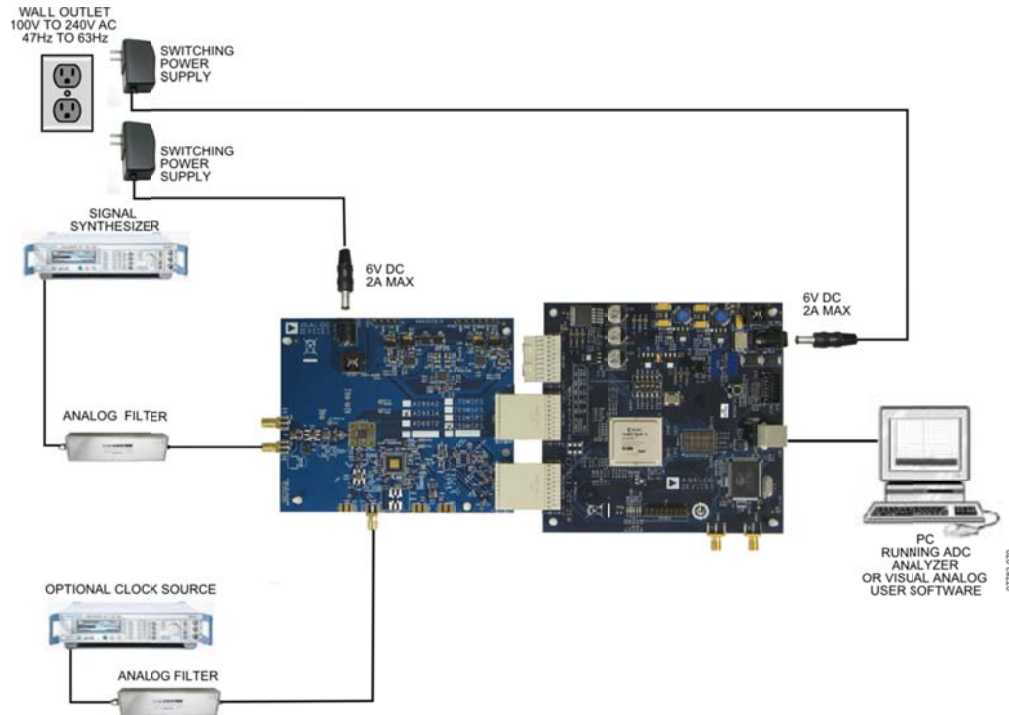

Figure 1: AD9642 Evaluation Board with HSC-ADC_EVALCZ Data Capture Board
1. Connect the AD9642 evaluation board and the HSC-ADC-EVALCZ board together as shown in Figure 1.
9. Next open the SPI Controller software. If prompted for a configuration file, select the configuration file titled AD9642_14Bit_250MSpiR03.cfg. If not, check the title bar of the window to see which configuration is loaded. If necessary, choose "Cfg Open" from the "File" menu and select one of the configuration files named above. Note that the CHIP ID(1) field may be filled whether the correct SPI Controller configuration file is loaded or not.
11. Set the DCO Clk Delay Enable checkbox in the FLEXOUTPUT DELAY(17) panel on the ADCBase0 tab as shown below. In addition, set the DCO Clk Delay register to the ‘600ps additional delay on DCO pin’. Also, if using parts that are branded “XCPZ” with a date code other than 1126 set the O/P Port DCO Clk Invert checkbox in the OUTPUT PHASE (16) panel. Otherwise do NOT set the O/P Port DCO Clk Invert checkbox. These settings align the output timing with the input timing on the capture FPGA.